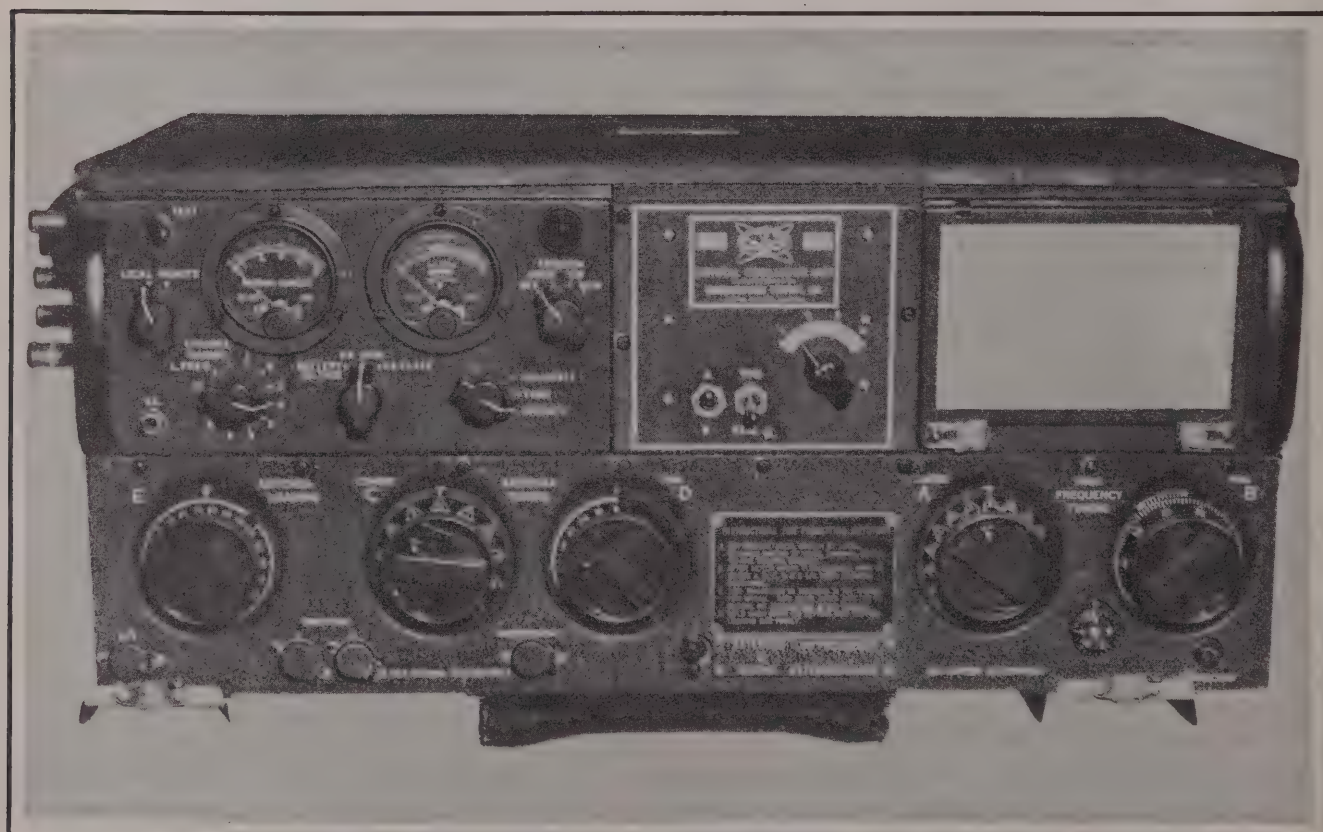

Figure 1-2A. Radio Transmitter T-4 12/ART-13B — Front View
(2) **TRANSMITTER T-412/ART-13B.**—Used as the basic unit of Radio Transmitting Set AN/ART-13B, this transmitter (see fig. 1-2A) provides both variable frequency oscillator and crystal-controlled oscillator operation. Four bands of transmission frequencies are available. The basic unit, utilizing VFO operation, covers the frequency range of 2000 kc. to 18,100 kc. Plug-in oscillator units are required to obtain additional frequency ranges. Low frequency VFO unit O-17/ART-13A covers the range 200 kc. to 600 kc. When the